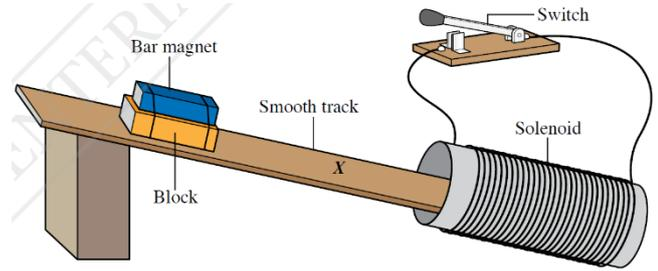

Figure 5
6. Figure 5 shows a wooden block with a bar magnet tied to it sliding with an acceleration down a smooth track. When the block arrives at mark X on the track, the switch is turned on.